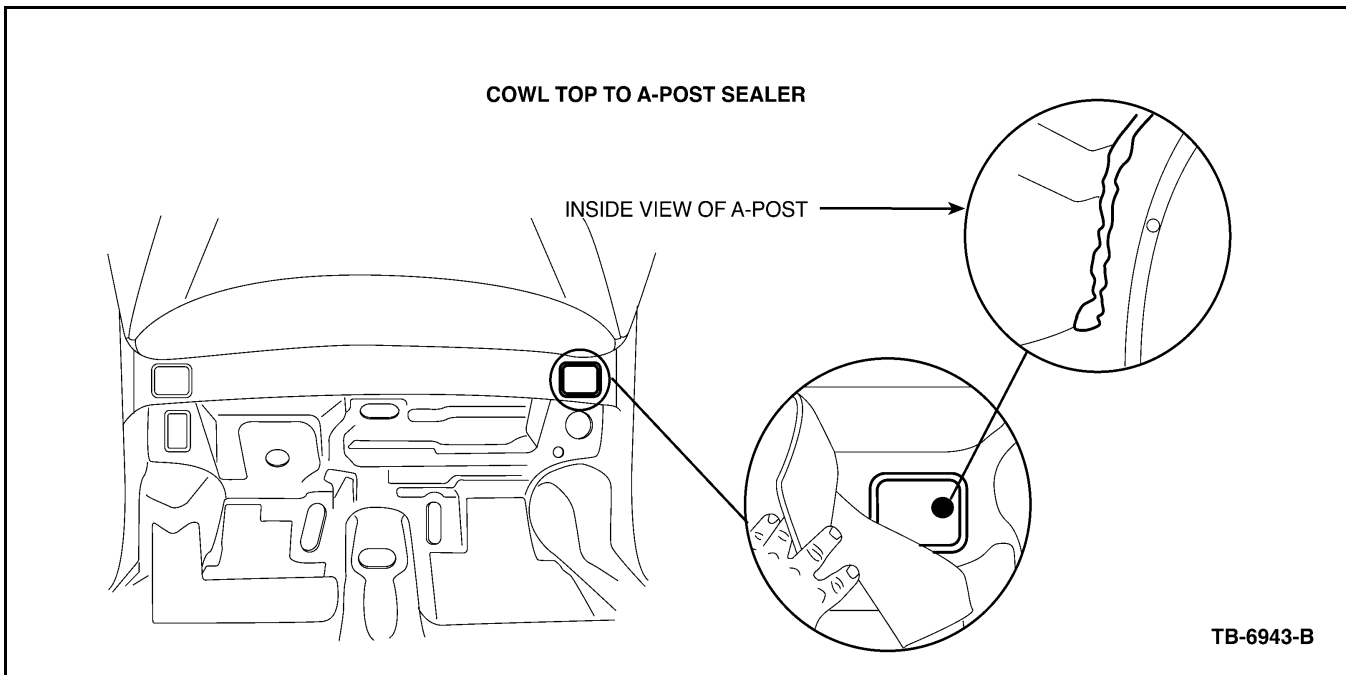

Figure 7 - Article 05-13-3
4. Inspect for sealer skip in A-post to cowl joint. Reseal as necessary (Figure 7).